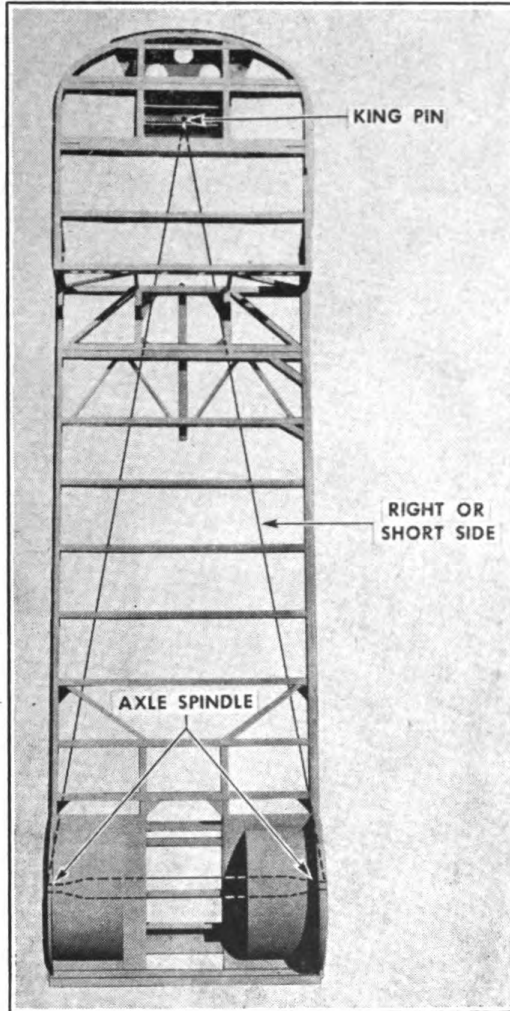

FIGURE 16. AXLE ALIGNMENT—SEMI-TRAILER.
4. **AXLE ALIGNMENT—SEMI-TRAILER** (Fig. 16).—*a.* Jack up unit using two jacks, one on right side and the other on left side, under axle. Remove both wheel assemblies.